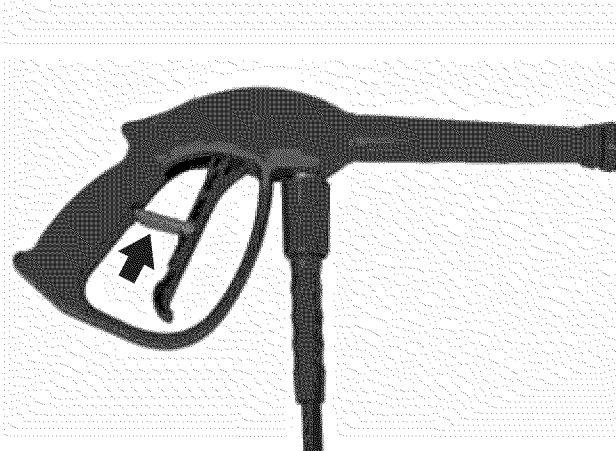

Figure 18 – Trigger Lock Lever
1. Flip the trigger lock lever up and lock the trigger in the OFF position (see *Figure 18*).